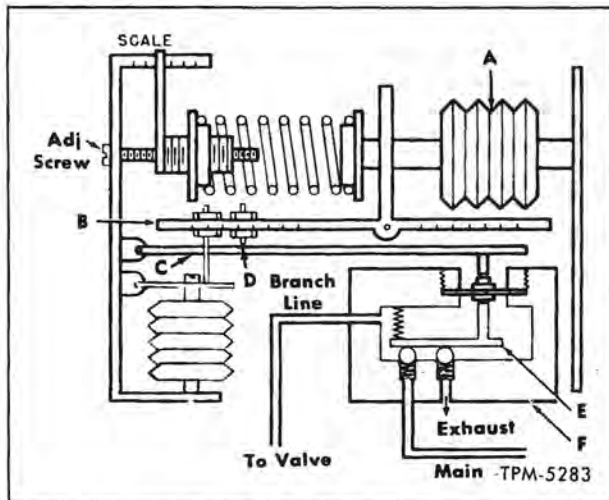
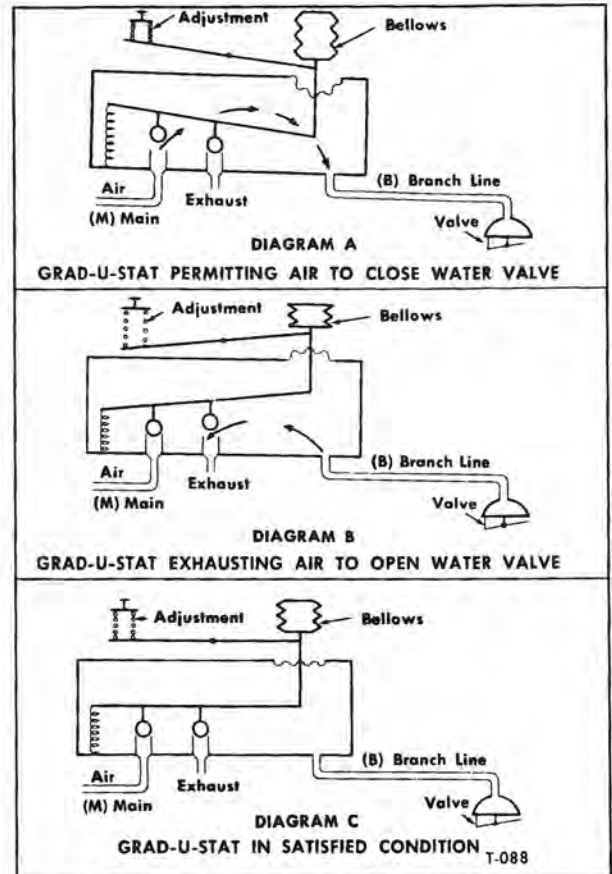

Figure 17—Grad-U-Stat Diagram
Figure 18—Grad-U-Stat Operational Diagram
**NOTE:** Key letters in text refer to figure 17, however, throughout explanation of Grad-U-Stat operation, reference is made to simplified diagrams shown in figure 18 which illustrate reaction of Grad-U-Stat under varied temperature conditions.
As temperature in coach rises, bellows (A) expands and exerts downward force on secondary lever (C) through main lever (B) and adjusting button (D). Downward movement of secondary lever is transmitted to lever (E) in air control chamber (F) of unit, increasing air pressure delivered to water modulation valve as shown in diagram A, figure 18. This increased air pressure at the modulation valve, causes the valve to close, reducing the flow of water through the underfloor heater core.
When temperature in coach lowers, the bellows (A) contract and relieves pressure exerted in air control valve lever (E). Air valve then exhausts air pressure from water modulation valve, increasing the flow of water through the underfloor heater core as shown in diagram B, figure 18. The air pressure delivered by the Grad-U-Stat varies in proportion to the inside coach temperature acting upon the bellows; thus, flow of water through underfloor heater core is graduated as required in accordance with inside coach temperature. Diagram "C" figure 18, shows status of Grad-U-Stat when temperature in coach is approximately equal to temperature setting on Grad-U-Stat.